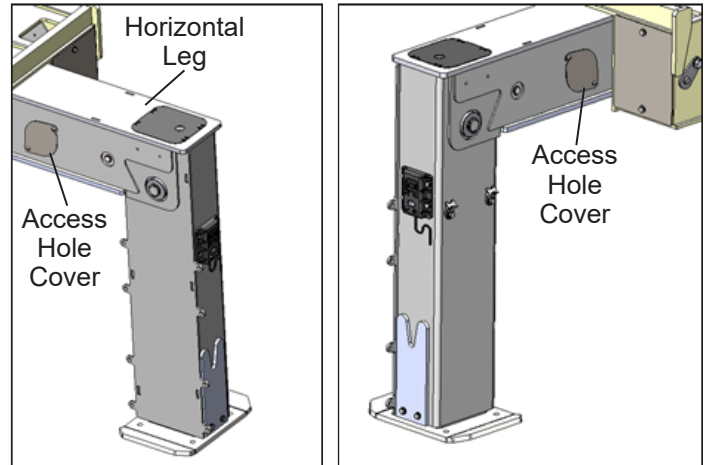

Figure 1 — Extending Legs to Expose Covers
2. Extend both rear outrigger horizontal legs far enough to expose the access hole covers on the sides (refer to Figure 1). Disengage the PTO, and turn off the engine. Remove the key from the ignition, and secure it following your employer’s vehicle lockout/tagout procedure.